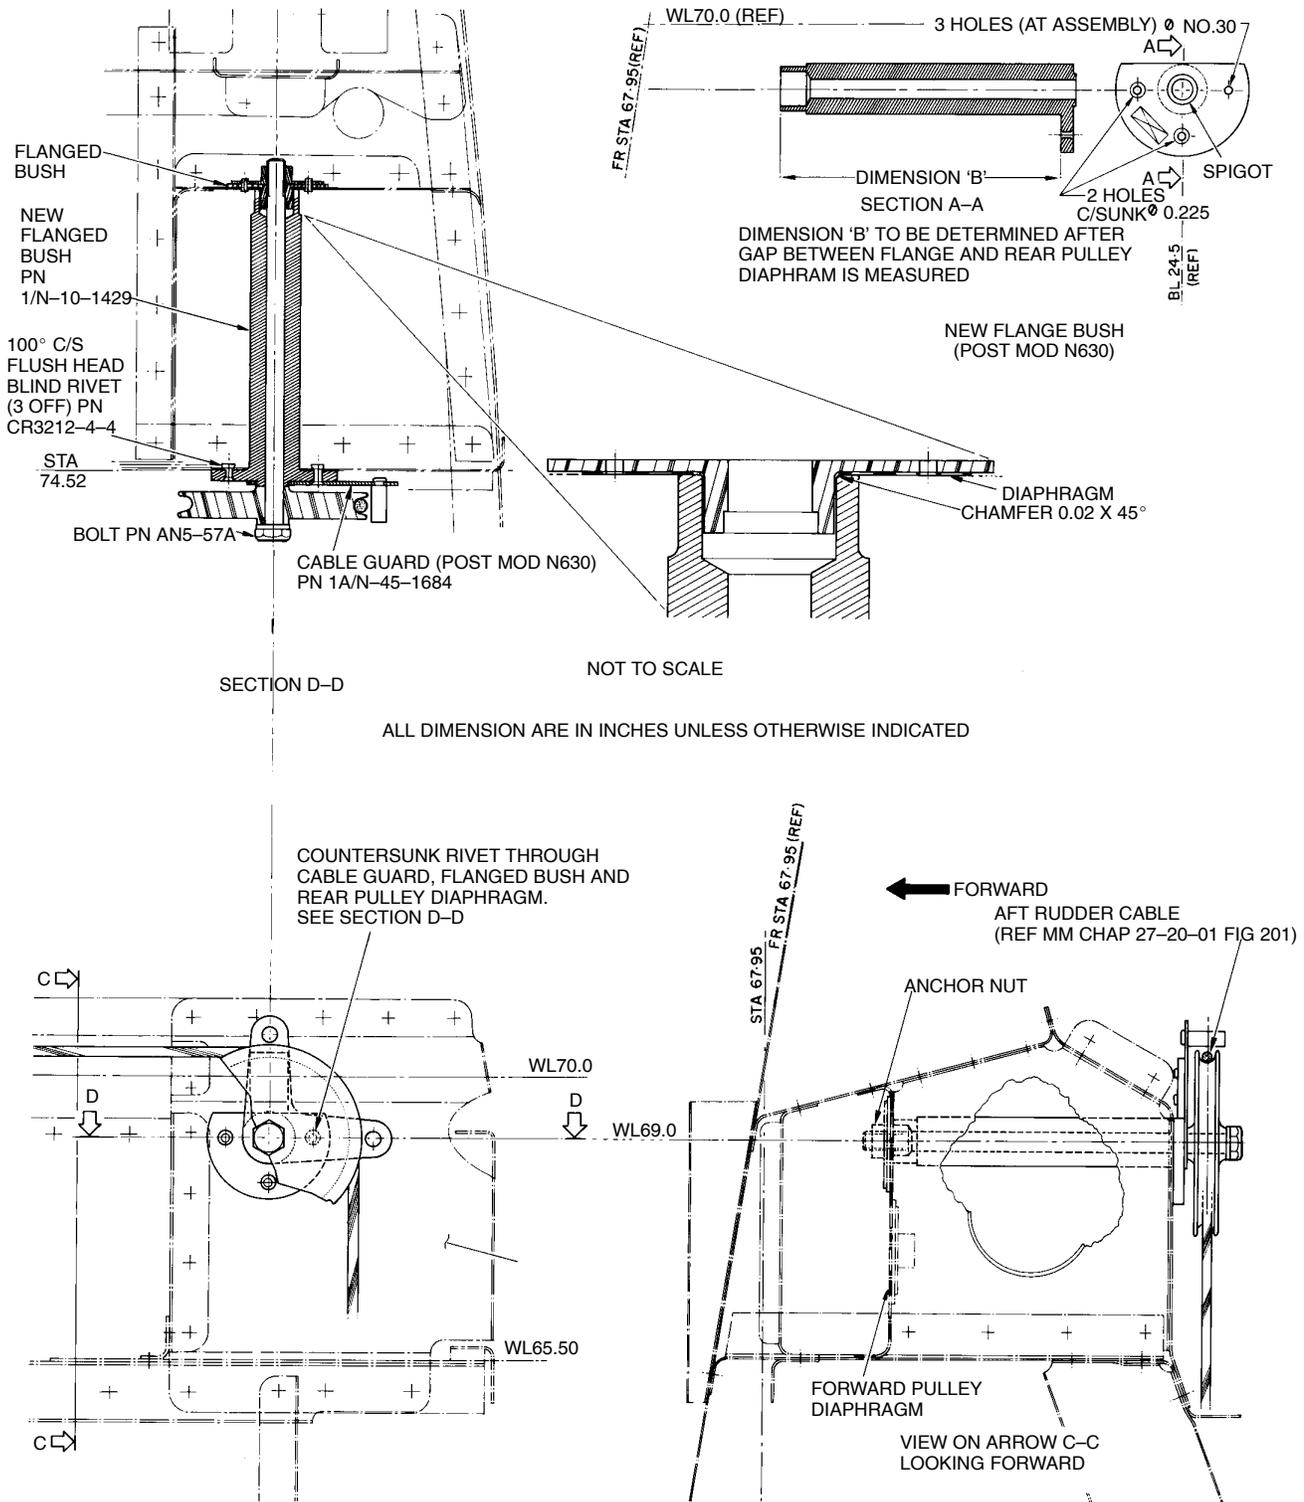

Figure 1 Installation of Flanged Bush (Post Mod N630)
- H. Assemble the cable guard onto the spigot of the new flanged bush as shown in Figure 1, i.e. in its normal position relative to the pulley, then back drill the cable guard at one position using a No.30 drill.